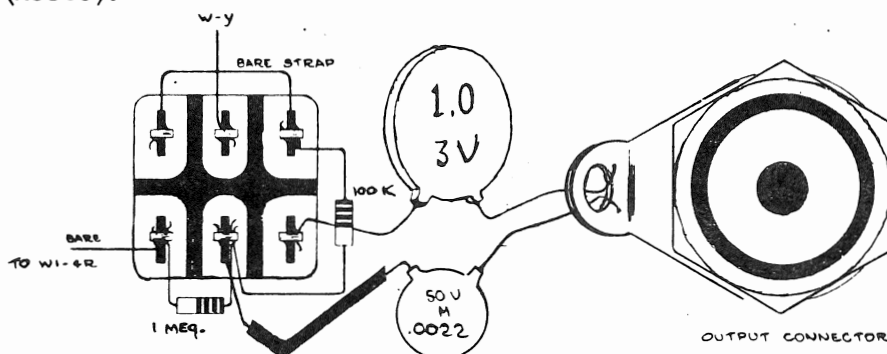

Fig. 3
- n) Unsolder the end of the 0.0022  $\mu$ f capacitor from the 'B' INTEGRATOR LF REJECT switch. Resolder it to the terminal indicated in Fig. 3. Clean the excess solder from the switch terminals.
- p) Solder a 2-1/2 in. length of white-yellow wire between the 'B' SELECTOR switch W2-8R and the switch terminal indicated in Fig. 3.
- q) Solder a 1-1/2 in. length of bare wire to 'B' SELECTOR switch W1-4R. Place a 1 in. length of plastic tubing over the wire and dress the wire to the switch terminal indicated in Fig. 3. DO NOT SOLDER until next step.
- r) Resolder the components and wires to the switch as indicated in Fig. 3, using length of bare wire.